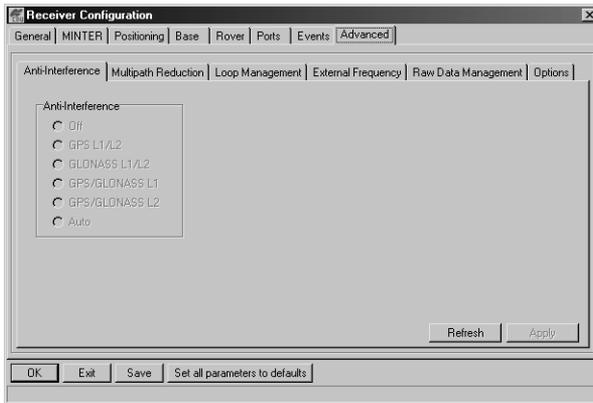

Figure 2-15. Receiver Configuration – Advanced Tab
4. Click the **Advanced** tab on the Receiver Configuration screen (Figure 2-15).